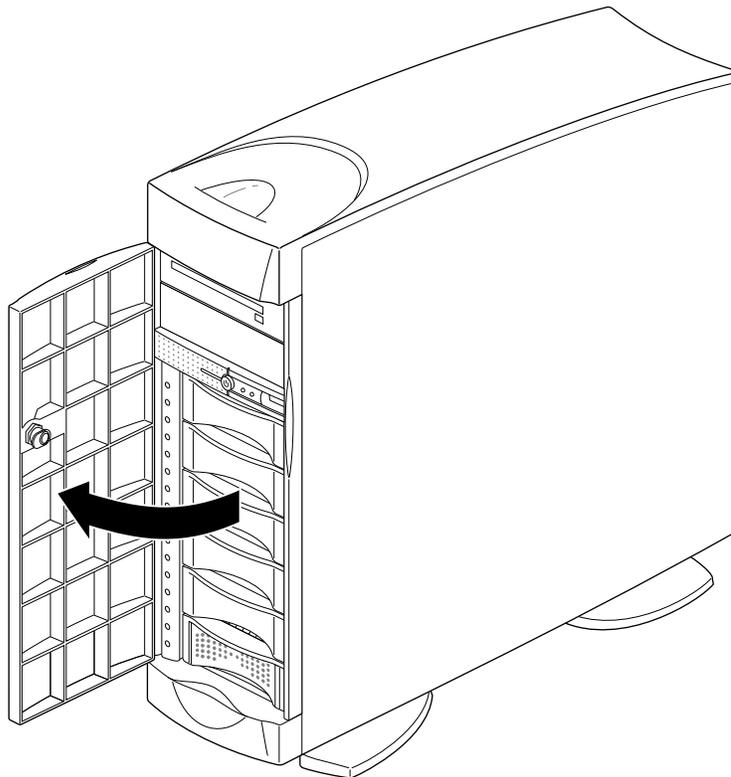

Figure 6-16 Opening the Front Door of an Origin200 System
1. Open the front door of the chassis, as shown in Figure 6-16.